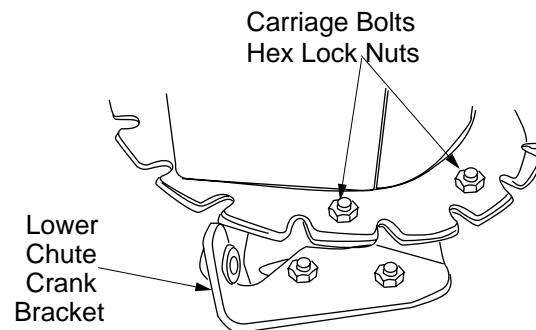

Figure 8
1. Loosen the two hex nuts which secure the chute crank support bracket (see Figure 8) to the snow thrower housing.